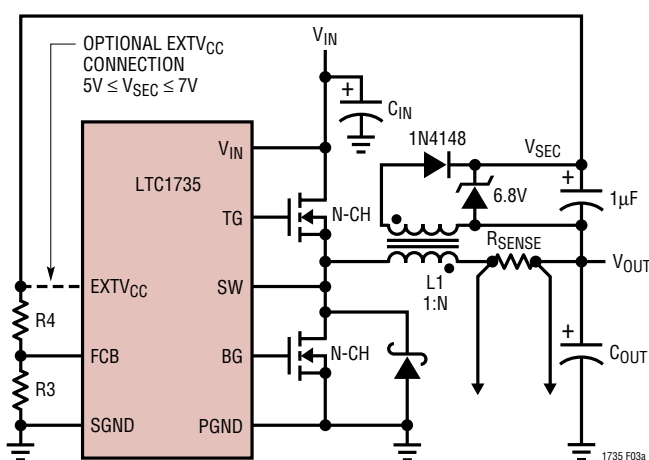
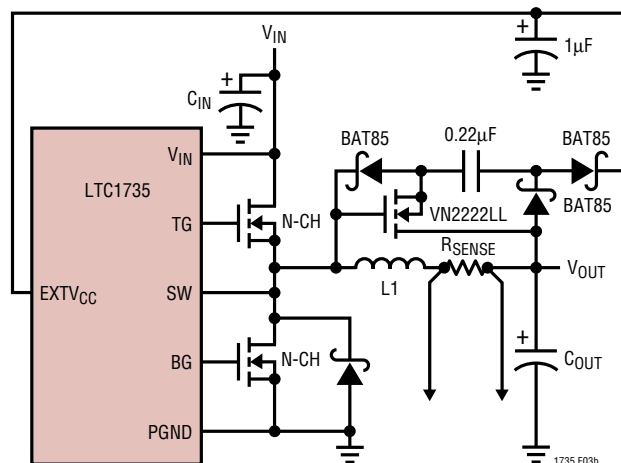

Figure 3a. Secondary Output Loop and EXTV_{CC} Connection
Figure 3b. Capacitive Charge Pump for EXTV_{CC}
3. EXTV_{CC} connected to an output-derived boost network. For 3.3V and other low voltage regulators, efficiency gains can still be realized by connecting EXTV_{CC} to an output-derived voltage that has been boosted to greater than 4.7V. This can be done with either the inductive boost winding as shown in Figure 3a or the capacitive charge pump shown in Figure 3b. The charge pump has the advantage of simple magnetics.
In addition to providing a logic input to force continuous synchronous operation and external synchronization, the FCB pin provides a means to regulate a flyback winding output (refer to Figure 3a). During continuous mode, current flows continuously in the transformer primary. The secondary winding(s) draw current only when the bottom, synchronous switch is on. When primary load currents are low and/or the V_{IN}/V_{OUT} ratio is low, the synchronous switch may not be on for a sufficient amount of time to transfer power from the output capacitor to the secondary load. Forced continuous operation will support secondary windings provided there is sufficient synchronous switch duty factor. Thus, the FCB input pin removes the requirement that power must be drawn from the inductor primary in order to extract power from the auxiliary windings. With the loop in continuous mode, the auxiliary outputs may nominally be loaded without regard to the primary output load.
The secondary output voltage V_{SEC} is normally set as shown in Figure 3a by the turns ratio N of the transformer: